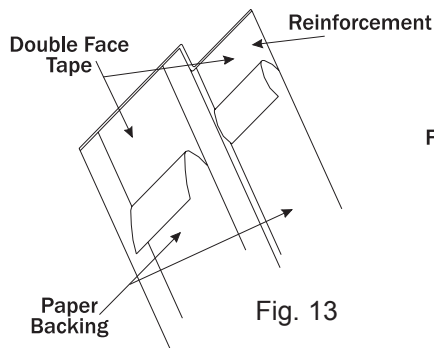
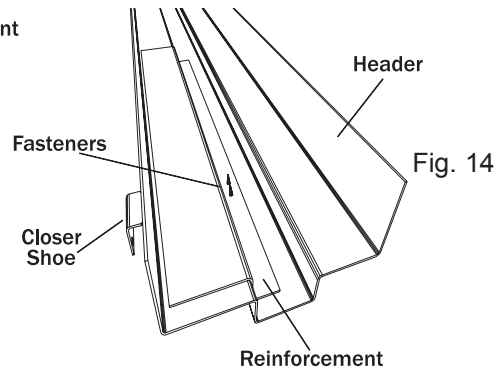

Fig. 13
Fig. 14
- 2** Expose double face tape by removing paper backing on two strips of tape (Fig. 13) and press into position to secure the sleeve to the header (Fig. 14).